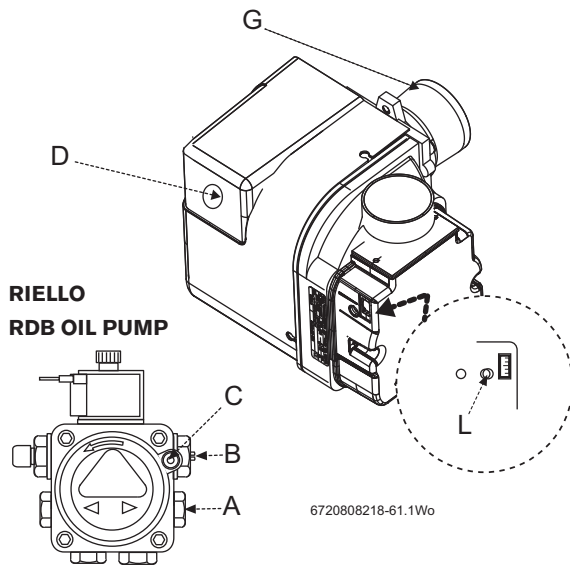

Fig. 67
- ▶ Wait 2 minutes then press the lockout reset button D (see figure 67) to initiate another start sequence.
- ▶ Check for after-sputtering from the nozzle, indicated by oil saturation on the combustion head (G figure 67).